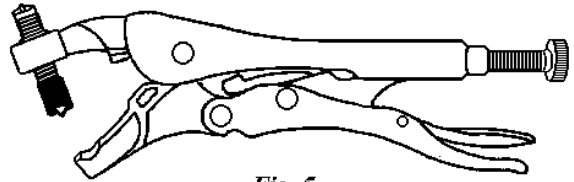

Fig. 5
**Piercing Tool with Access Valve** – These access valves can be installed without the need for brazing and **will not** remain on the system when repairs are completed. (Fig. 5)